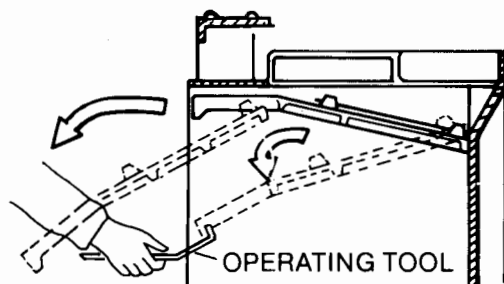

FIG. 7 LOWERING & REMOVING FLUE RESTRICTOR PLATE
- b. Insert the flexible flue brush into the flue pipe outlet and brush surface deposits downwards. Remove all fallen surface deposits from throat plate and re-locate in the reverse manner previously described. See Fig. 7.